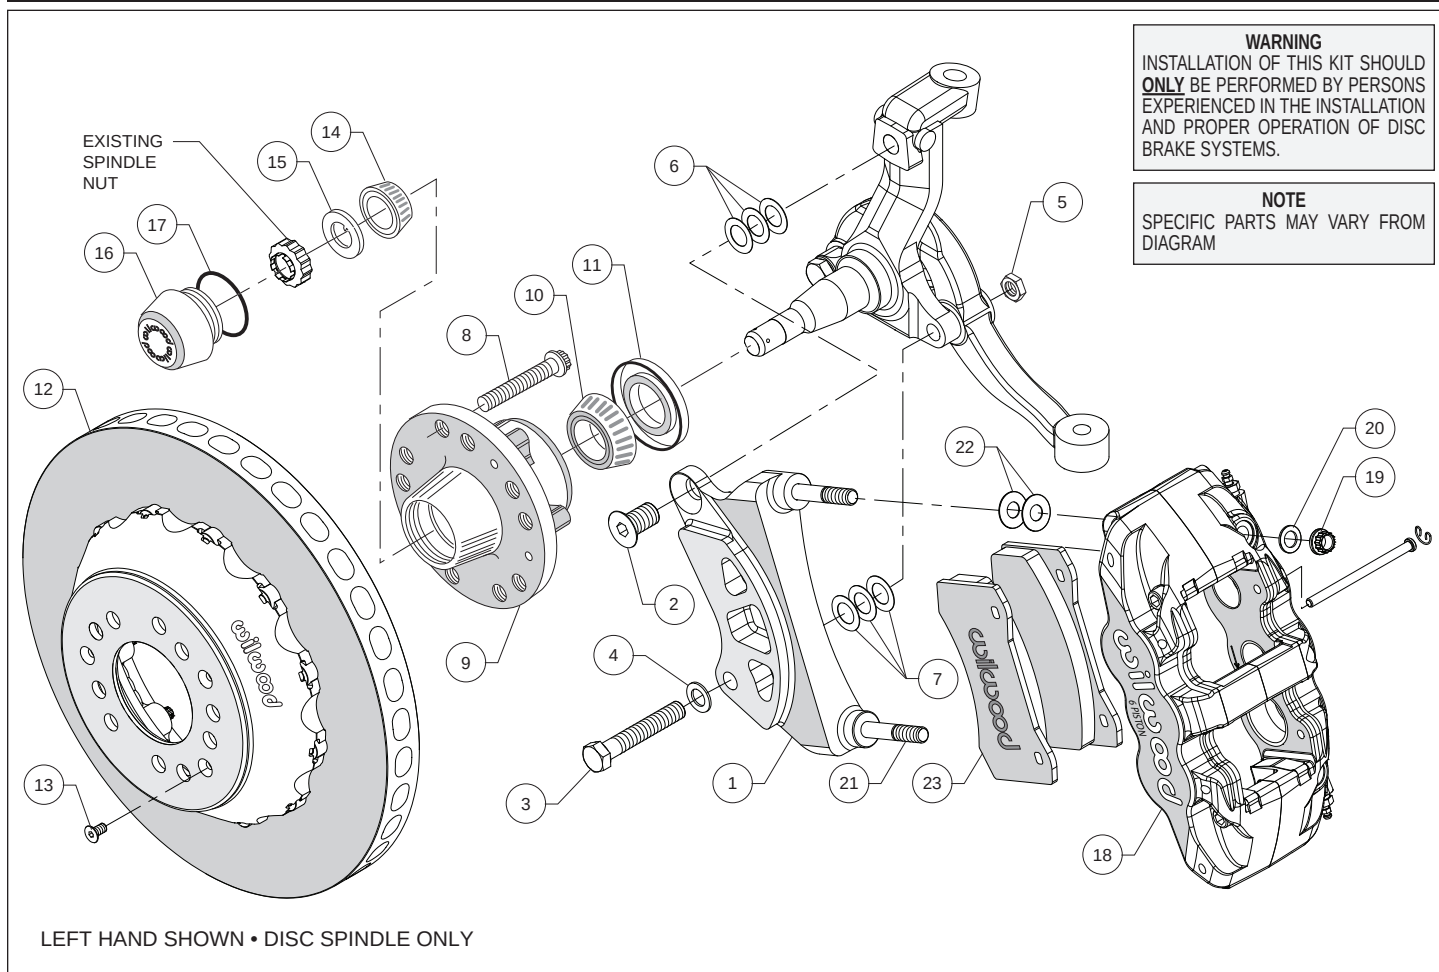

Figure 1. Typical Installation Configuration
Assembly Instructions (numbers in parenthesis refer to the parts list on the preceding page, and Figure 1):
- The caliper mount bracket (1) should initially be installed with clean, dry threads on the mounting bolts. Orient the bracket as shown in Figure 1, and install using bolts (2 and 3), washer (4) and nut (5). Initially place three .015 thick shims (6) on the top bolt and three .015 thick shims (7) on the bottom bolt between the bracket and spindle, Figure 1. Tighten the mounting bolts and temporarily install the new hub (9) and rotor (12). Check that the bracket is parallel to the rotor, Photo 3. If not, adjust by adding shims on the top **or** bottom bolt to square up the bracket. **NOTE:** The bracket must fit squarely against the mount bosses on the spindle. Inspect for interference from casting irregularities, machining ridges, burrs, etc. Later, after the caliper offset has been checked, the mount bolts will be secured using red *Loctite*® 271.
- NOTE:** This kit contains distinct right and left hand calipers that must be mounted in a specific direction, as described below. Lubricate the caliper mounting studs (21) with lightweight oil. Initially place two .030" thick shims (22) on each stud between the caliper and the bracket, as shown in Figure 1 and Photo 4. Mount the caliper (18) onto the bracket (1) using lock nuts (19) and washers (20), Figure
- Final install the hat/rotor (12) onto the hub (9) taking care to align the small countersunk holes in the hat with the small threaded holes in the hub. **NOTE:** The hat must fit flush against the hub face or excessive rotor run out may result. Install three flat head screws (13) through the small holes in the hat, Photo 7, and torque to 85 in-lb.
- Remove the two pad retaining pins from the caliper by carefully popping out the pin retaining clips and sliding out the pins. Insert the brake pads (23) into the caliper from the bottom, Figure 1 and Photo 8. With the friction material facing the rotor, secure the brake pads in place with the pad retaining pins and clips, Photo 9. Reinstall the caliper onto the caliper mounting bracket and temporarily tighten the lock nuts. Check that the top of the brake pad is flush with the outside diameter of the rotor, Photo 10. If not, adjust by adding or subtracting shims (22) between the caliper and the bracket. After the caliper pad height is set, torque the caliper lock nuts (19) to 47 ft-lb.